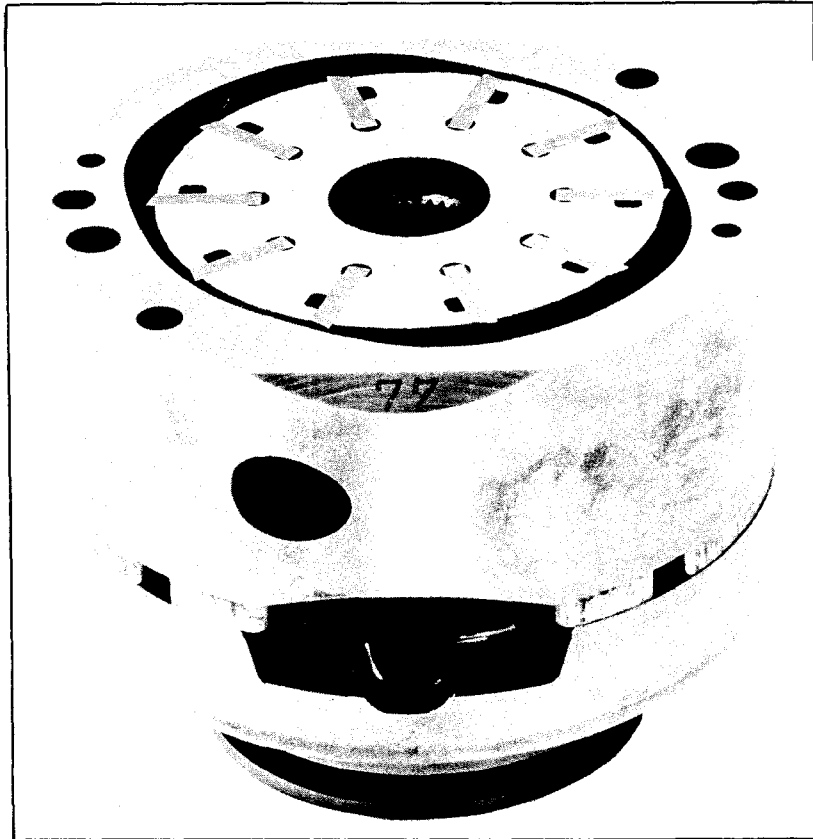

Figure 20. Outlet support plate and flex side plate assembled to cartridge.
f. Hold the cartridge together to prevent movement and turn the assembly over so the outlet support plate rests on a flat surface, and the flat wooden board is up. (See Figure 20.) Remove the flat wooden board.